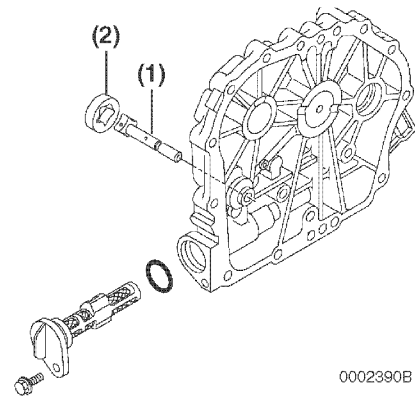

Figure 6-74
8. Remove the inner rotor, shaft assembly (**Figure 6-74, (1)**) and outer (**Figure 6-74, (2)**) rotor from the crankcase cover.